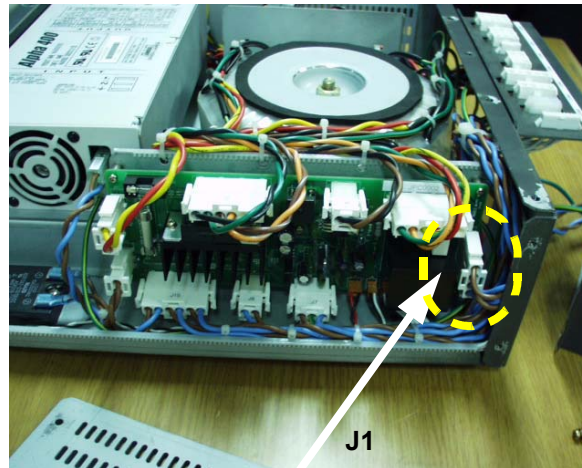

Figure 8-135 Disconnect 1 connector
- 3.) Disconnect one (1) connector (J1) from the JPC Assy. Refer to Figure 8-135 on page 8-84 ..